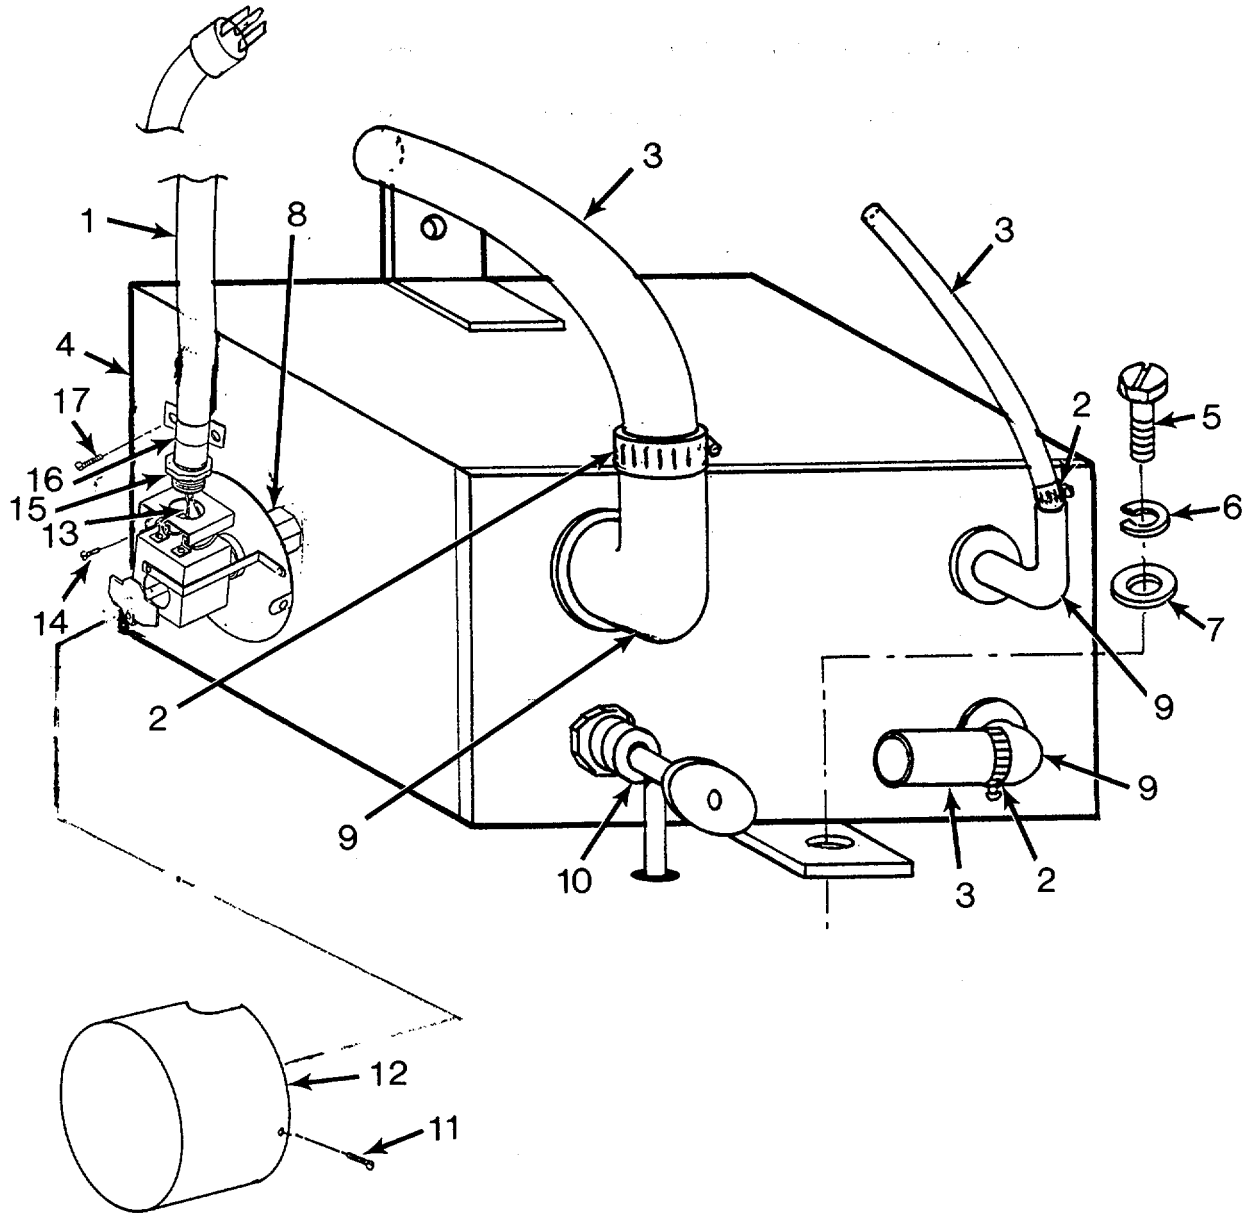

Figure 4-22. Water Tank and Water Heater Assembly
(2) Replace water tank and water heater assembly. (See Figure 4-22.)